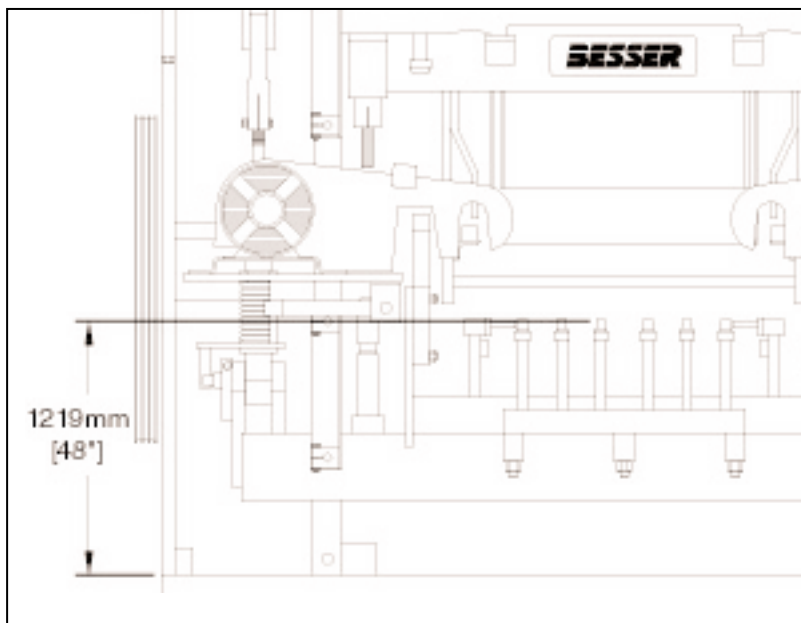
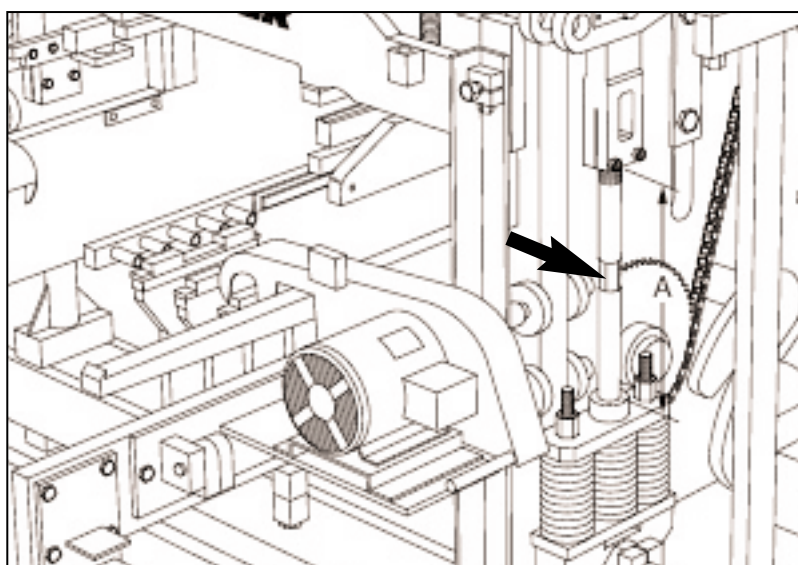

Figure 4.58 PALLET RECEIVER RUBBERS ABOVE BASE PLATE.
Figure 4.59 LINK ROD.
- 4.4.5 Run machine to "first stop" and adjust the pallet receiver links to obtain a dimension of **1219mm [48"]** from the top of the base plate to the tops of the pallet receiver rubbers (see figure 4.58). This adjustment should expose approximately **600mm [23 5/8"]** of link rod between the upper link end and the boss on the spring assembly (see dimension "A" on figure 4.59).